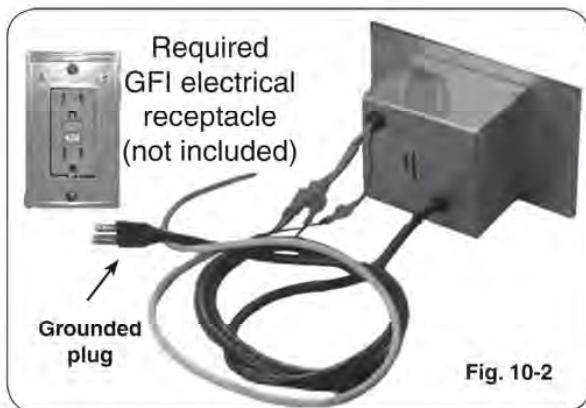

Fig. 10-2
1. Locate the power cord coming out of the power supply with the standard three-pronged grounded plug at the end (see Fig. 10-2).